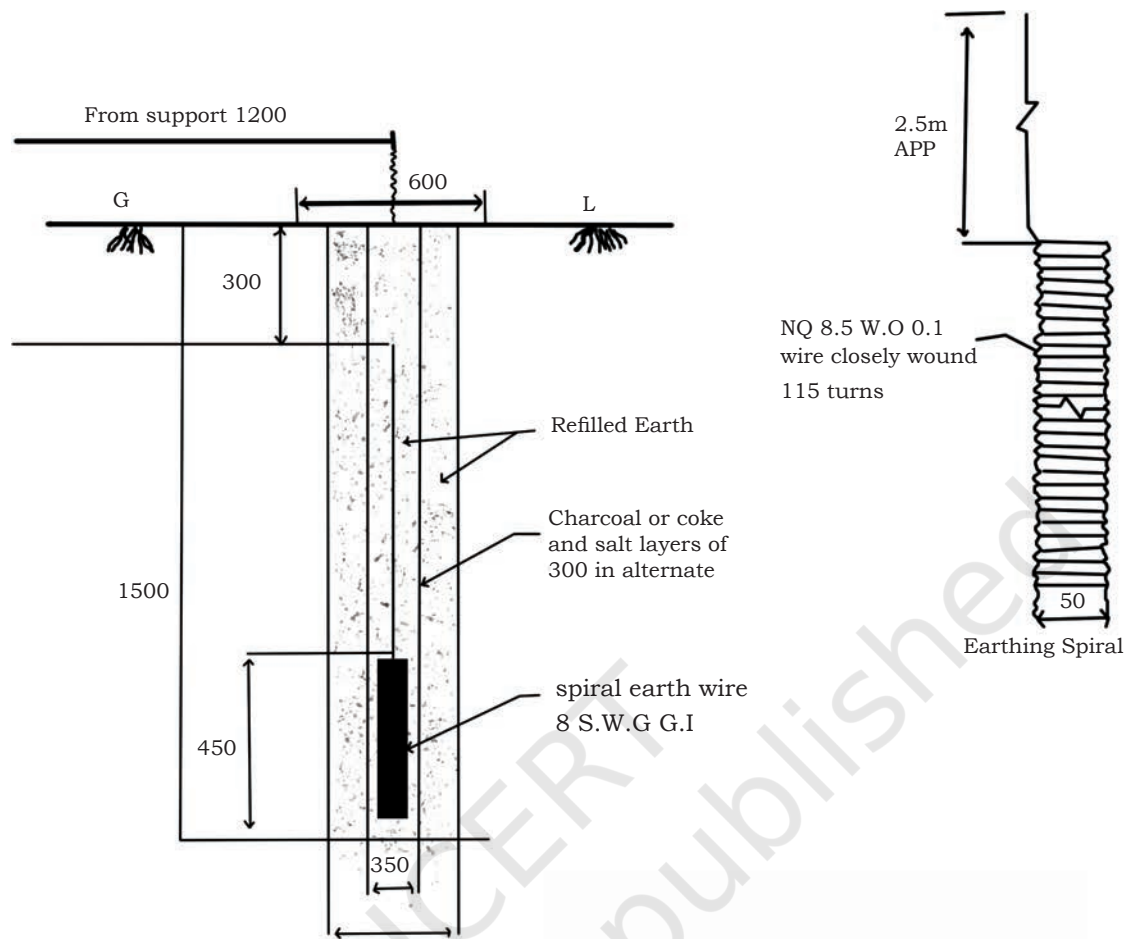

Fig. 4.45 Coil Earthing
1. REC Construction Standard J-1 Coil Earthing (Fig. 4.45)